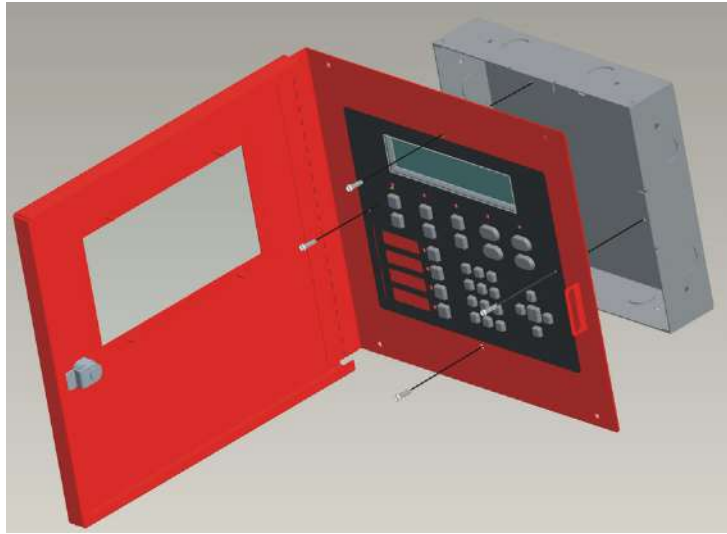

Figure 4.14 Attaching Annunciator / Door Assembly to Backbox
4. Attach the annunciator and door assembly to backbox as shown in Figure 4.14 using the supplied screws.
6. Attach the annunciator and door assembly to the backbox using screws provided (see Figure 4.14).
4. Attach the annunciator/ door assembly to backbox as shown in Figure 4.14 using the supplied screws.